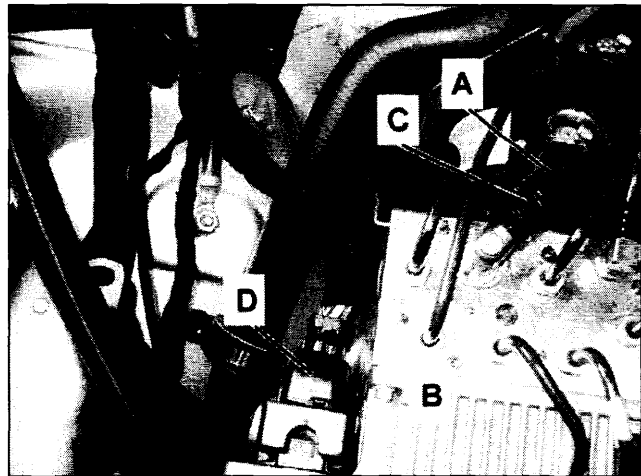

Figure 20
- In order to avoid breaking the self-tapping screw (B) during installation, the screw (B) must be **positioned absolutely straight**
- Remove self tapping screw (B).
- Position bracket (A) on SBC hydraulic unit, reinstall self tapping screw (B) and **torque to 7 Nm**.
24. Install new SBC hydraulic unit (B, Figure 20) into SBC body mounting grommets.
25. Connect hydraulic lines and SBC suction hose (A) to SBC hydraulic unit (B); refer also to WIS: AR42.46-P-0010R steps 12 – 16.
27. Connect the SBC wire harness connector (D, Figure 20) to the SBC hydraulic unit (B) and secure by engaging locking mechanism.